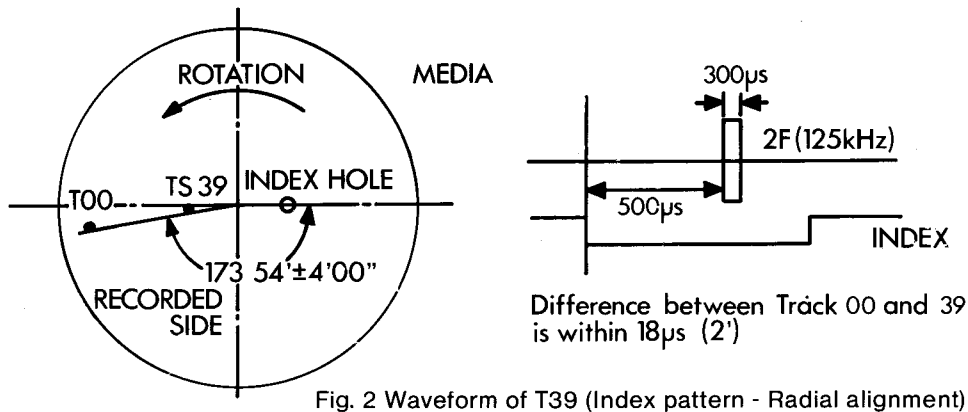

Fig. 2 Waveform of T39 (Index pattern - Radial alignment)
2. Adjustment of the index burst by use of Track 39 (Fig. 2).	○
- 4) Adjust OO Sensor (8 on Fig. 6) so that scope shows correct difference as Fig. 2.